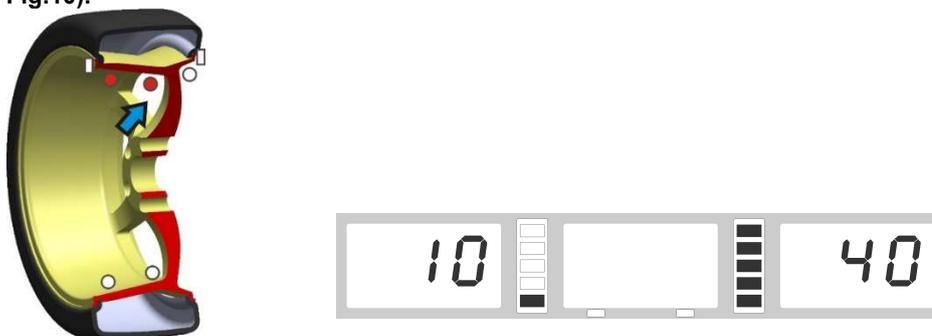

Fig. 10
- If you turn the wheel slowly anti-clockwise, the right display with fully lit LEDs shows the correct angular position in which the balancing weights (12 o'clock position) must be attached on the outside (see **Fig.10**).